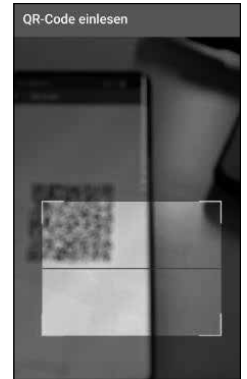

Fig. 42
- ② You may be asked to confirm the app's access to the camera. The camera's picture window will then open (Fig. 42). Scan the QR code on the smartphone B screen.